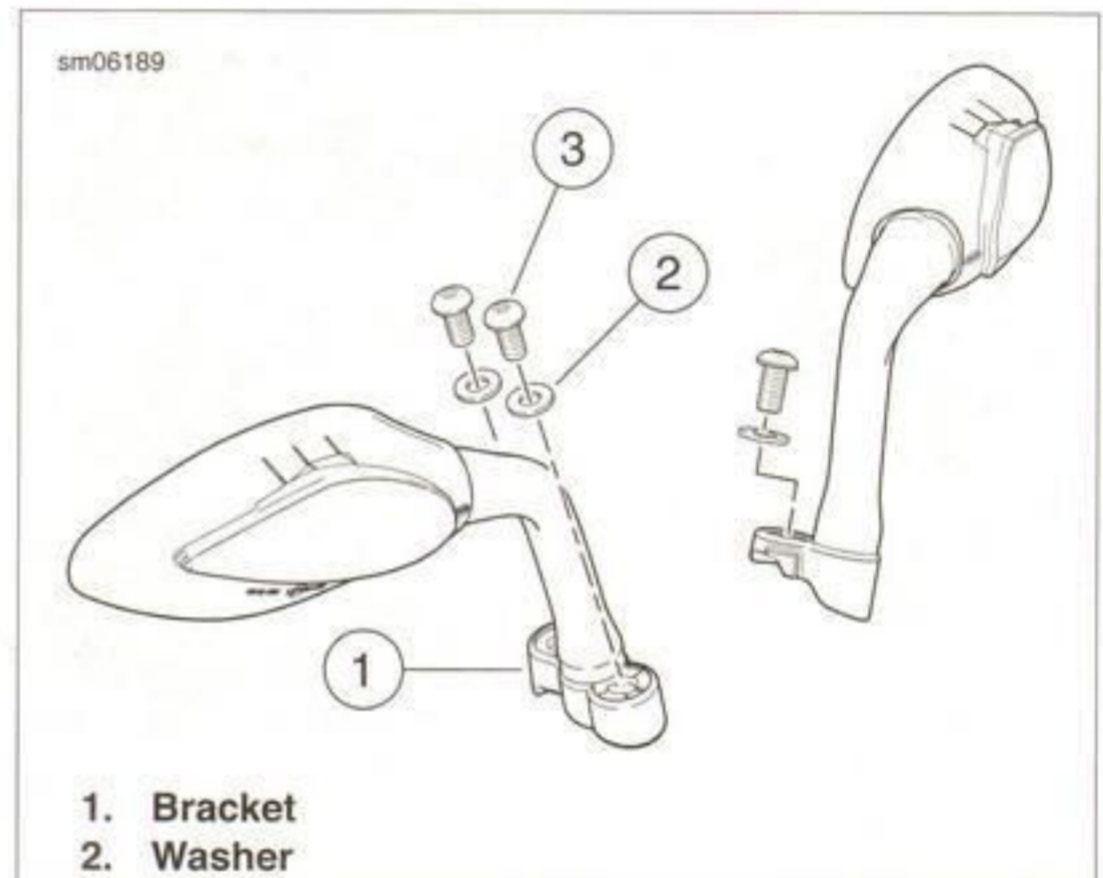

Figure 7-45. Turn Signals/Mirrors: 1125CR
1. See Figure 7-45. Thread the turn signal wire leads through the V-slot in the side of the windscreen.
2. Install the fasteners (3) with washers (2).